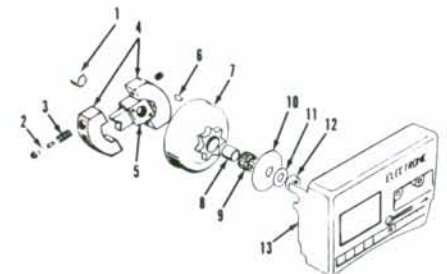
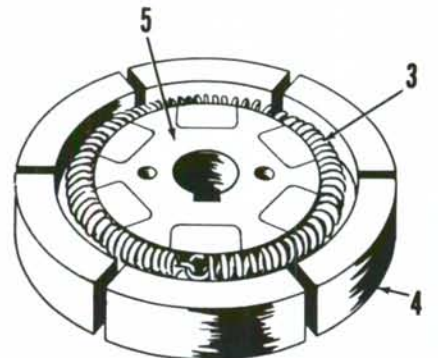

Fig. AP58—Exploded view of new design clutch used on late 070, 070S, A70 and Super Pro 70 models.
Fig. AP59—View showing clutch shoes (4), hub (5) and spring (3) used on all early models.
**CLUTCH.** Late Models 070, 070S, A70 and Super Pro 70 are equipped with the clutch assembly shown in Fig. AP58. Late Models Super Pro 90 and Super Pro 120 are equipped with the clutch assembly shown in Fig. AP60. Refer to Fig. AP59 for view of shoes (4), hub (5) and spring (3) used on all early models. Note that hub (5—Figs. AP58, AP59 and AP60) is keyed to crankshaft on all models. Inspect shoes (4—Fig. AP58 or Fig. AP60), drum (7) and needle bearing (9) for excessive wear or damage due to overheating. Use Alpina tool 4180110 or a suitable bolt-type puller to remove